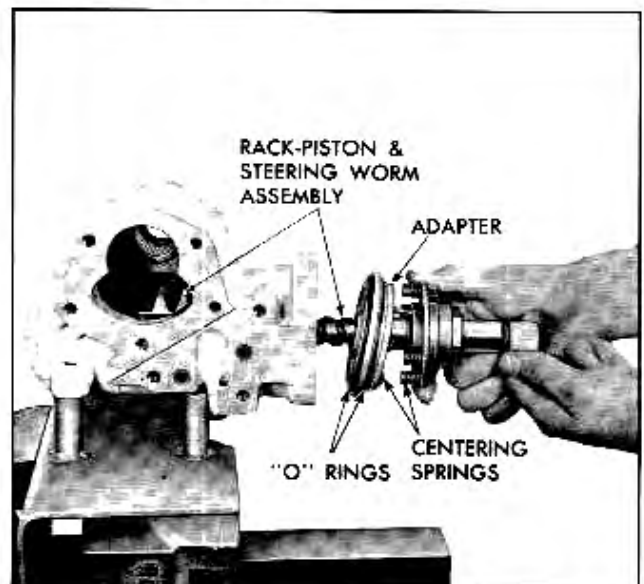

Fig. 9-35 Removing Rack-Piston and Steering Worm Assembly
1. Pull rack-piston and steering worm assembly out of housing. (Fig. 9-35).